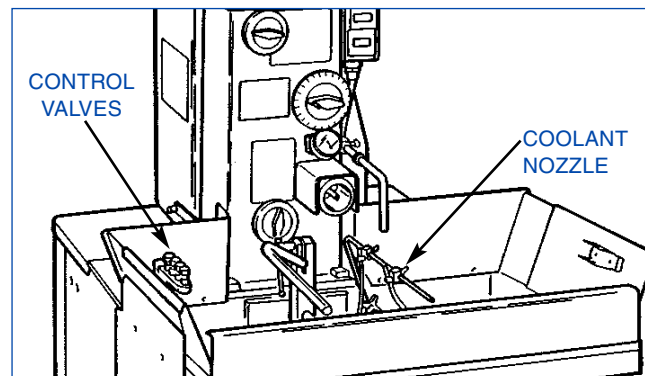

FIGURE 2-14, Coolant
32. Attach and adjust position of Coolant Nozzles (see Figure 2-14). Coolant should contact front and rear of Stone, parallel to mandrel. Adjust Total Volume and Individual Control Valves.